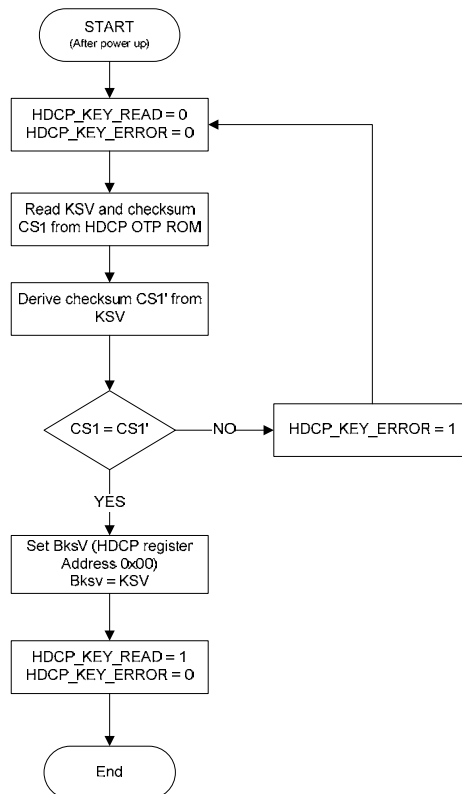

Figure 75: HDCP ROM Access After Power Up
- After a power up, the ADV7842 reads the KSV from the internal HDCP ROM (refer to Figure 75).